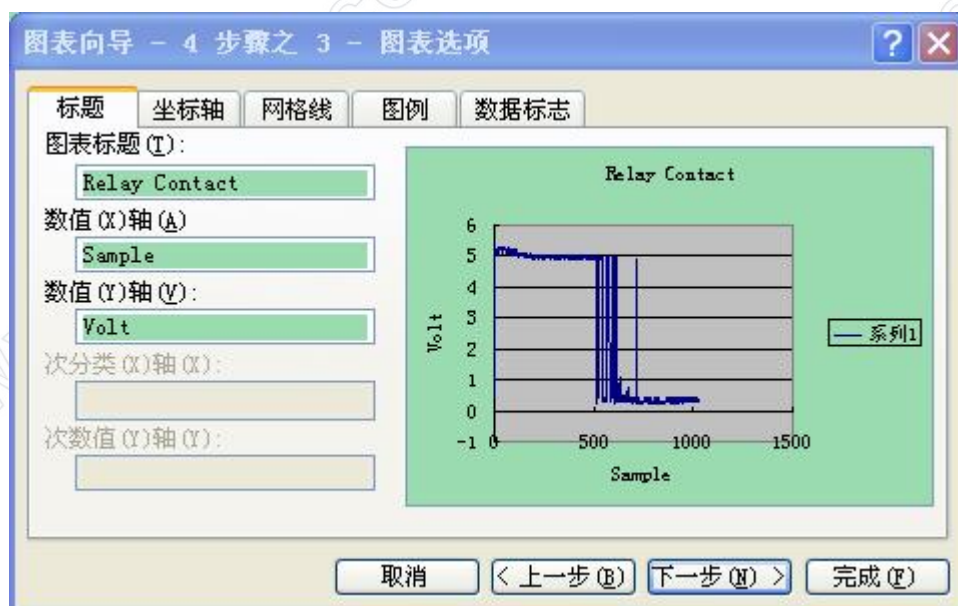

Fig. 15
- Add optional axis names (Fig.15).